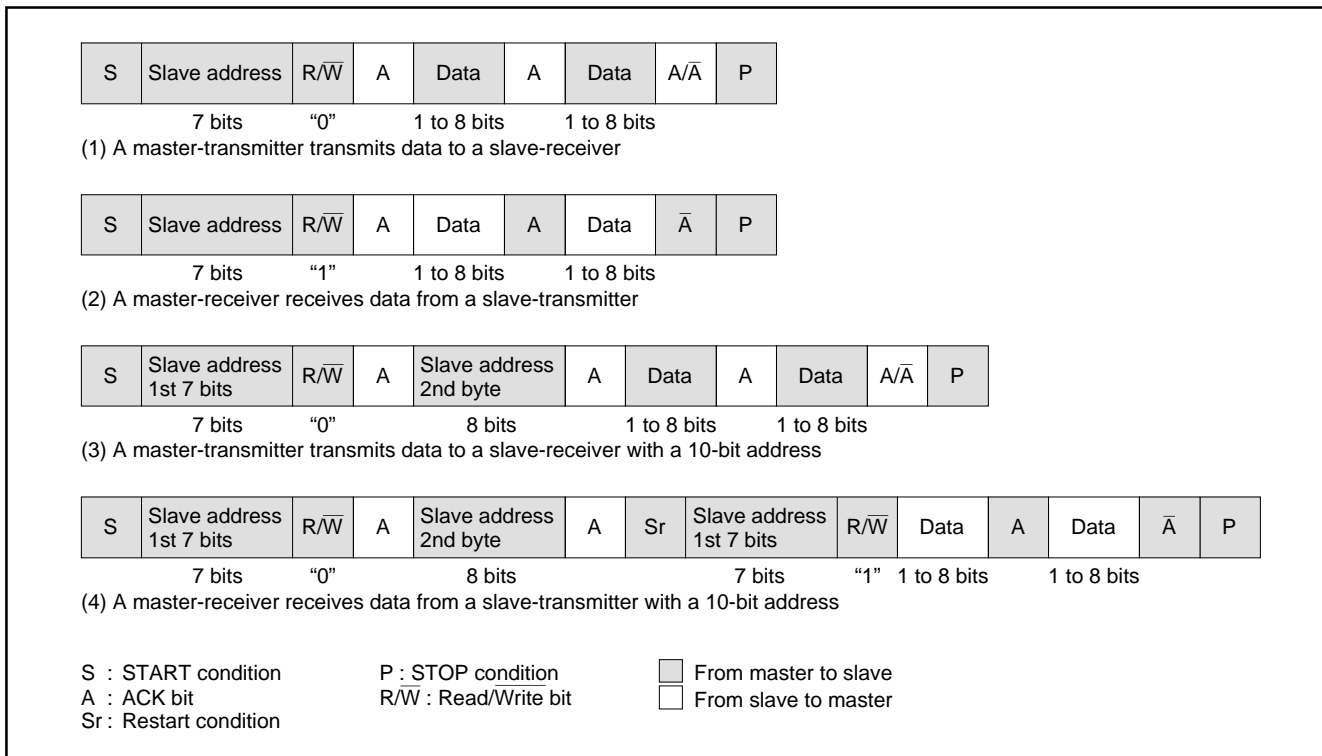

Fig. 34. Address Data Communication Format
① 7-bit addressing format
To meet the 7-bit addressing format, set the 10BIT SAD bit of the I²C control register (address 00DC16) to "0." The first 7-bit address data transmitted from the master is compared with the high-order 7-bit slave address stored in the I²C address register (address 00DA16). At the time of this comparison, address comparison of the RBW bit of the I²C address register (address 00DA16) is not made. For the data transmission format when the 7-bit addressing format is selected, refer to Figure 34, (1) and (2).
② 10-bit addressing format
When the first-byte address data matches the slave address, the AAS bit of the I²C status register (address 00DB16) is set to "1." After the second-byte address data is stored into the I²C data shift register (address 00D916), make an address comparison between the second-byte data and the slave address by software. When the address data of the 2nd bytes matches the slave address, set the RBW bit of the I²C address register (address 00DA16) to "1" by software. This processing can match the 7-bit slave address and R/W data, which are received after a RESTART condition is detected, with the value of the I²C address register (address 00DA16). For the data transmission format when the 10-bit addressing format is selected, refer to Figure 34, (3) and (4).
(11) Example of Master Transmission